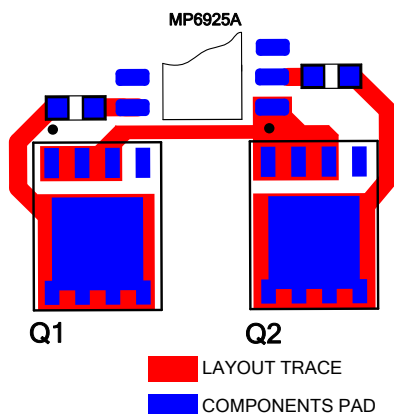

Figure 14: Layout Example for Sensing Loop and V_{DD} Decoupling
Figure 14 shows a layout example of the MP6925A driving PowerPAK SOIC-8 package MOSFETs with two separate, small, sensing loops.
1. Place a minimum $1\mu\text{F}$ decoupling capacitor from V_{DD} to PGND, close to the IC, for adequate filtering (see Figure 14).